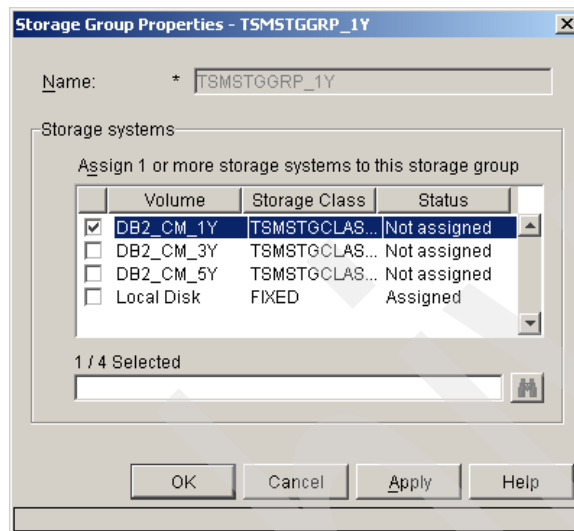

Figure 8-15 Storage Group Properties window
- f. Right-click **Storage Groups** and click **New** to open the Storage Group Properties window, as shown in Figure 8-15.